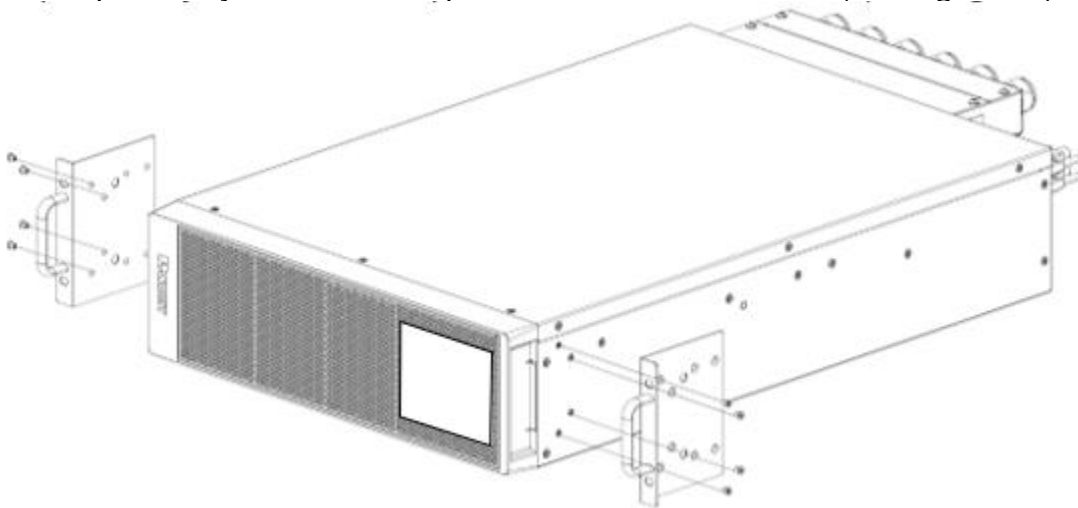

Figure 29: Install the Mounting Bracket
21. Align the mounting brackets with the screw holes on each side of the EBP and secure with the previously removed Phillips Flat Head M4x8 screws (see Figure 29).